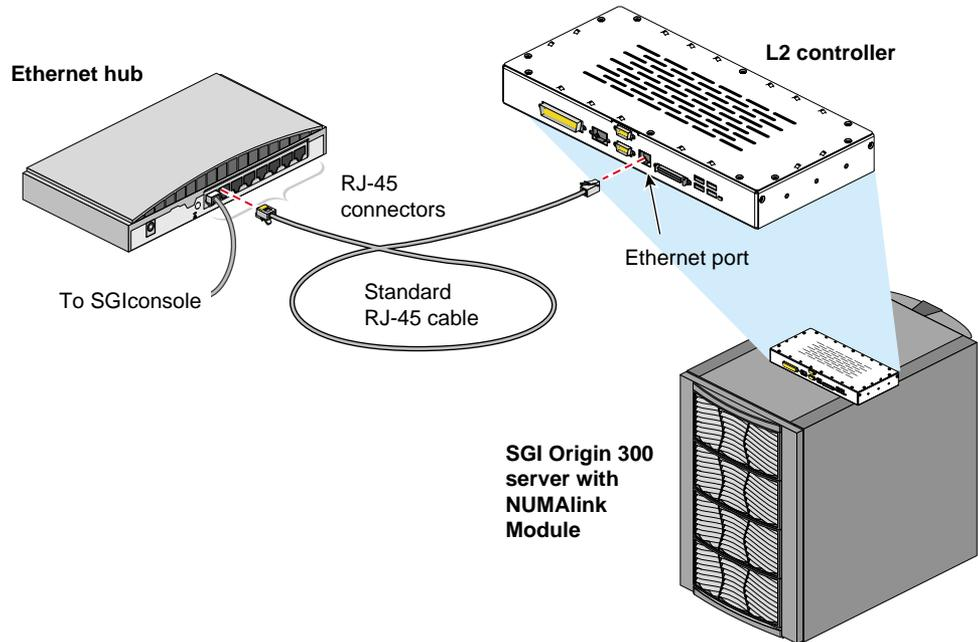

Figure 2-15 Connecting the Ethernet Hub to the Origin 300 Server with NUMAlink Module L2 Controller
5. Connect one end of the second standard RJ-45 cable to one of the RJ-45 jacks on the Ethernet hub. Connect the other RJ-45 connector end to the L2 controller's RJ-45 Ethernet jack. See Figure 2-15.